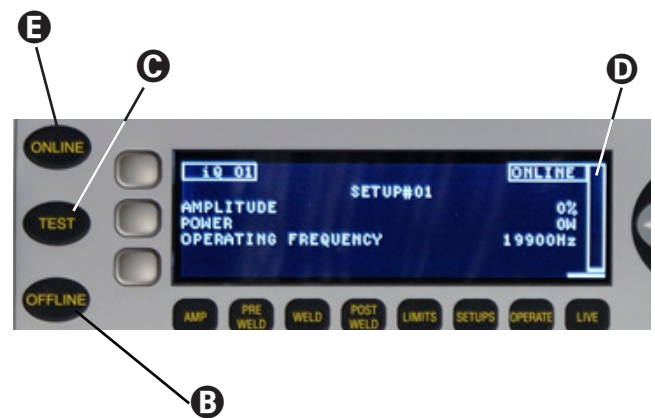

Figure 8-2 Testing the Generator
5. System Operating Mode Key Tests (See Figure 8-2)